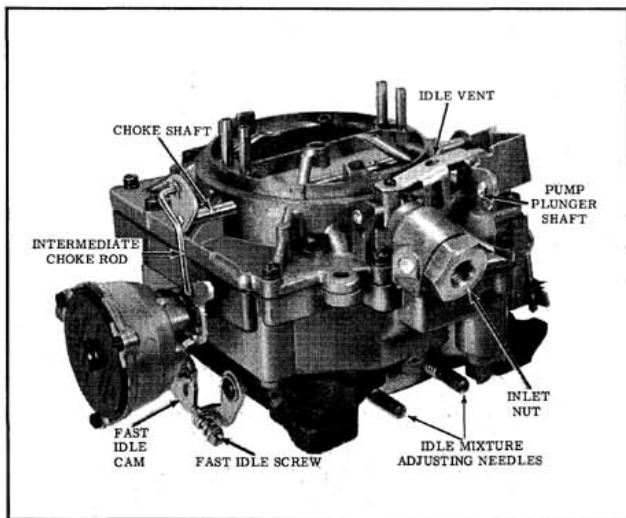

Fig. 4-47 4GC Carburetor Assembly
1. Remove the fast idle cam attaching screw. (Fig. 4-47)